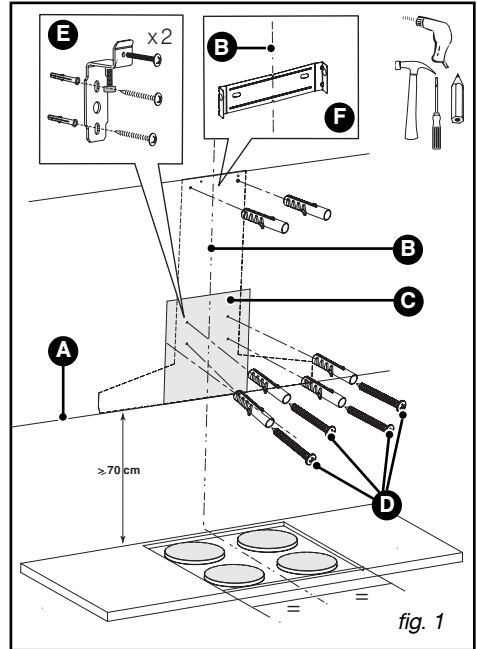

fig. 1
- Attach the ventilation shaft bracket F (fig. 1) flush with the ceiling for support and position the notches over axis B.